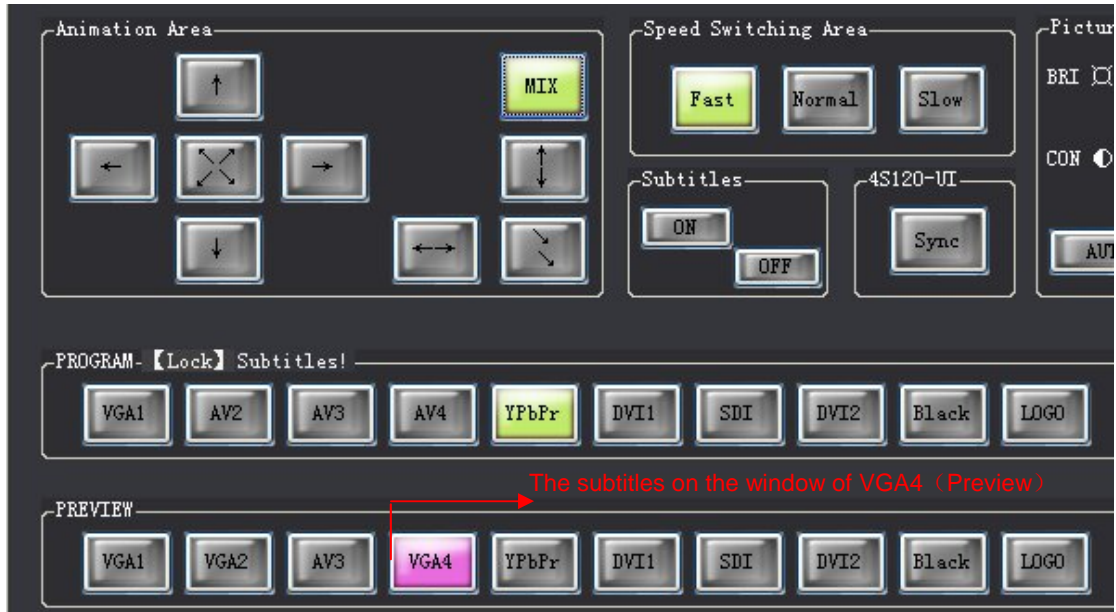

Fig 4.10
**【 OFF 】** subtitle closure, firstly switch the current Program out on which is inserted with subtitle to Preview output, then click **【 OFF 】** to close the subtitle. As shown in Fig 4.10.